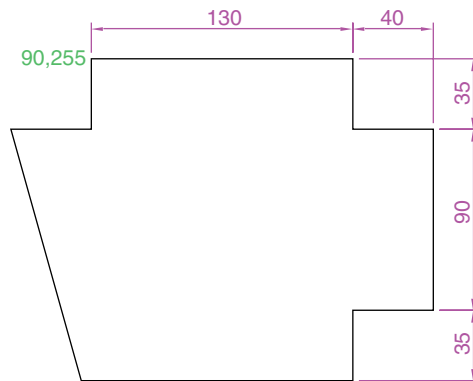

Fig. 2.17 First example – **Erase**. An incorrect outline
1. With **Line** construct the outline in Fig. 2.17.